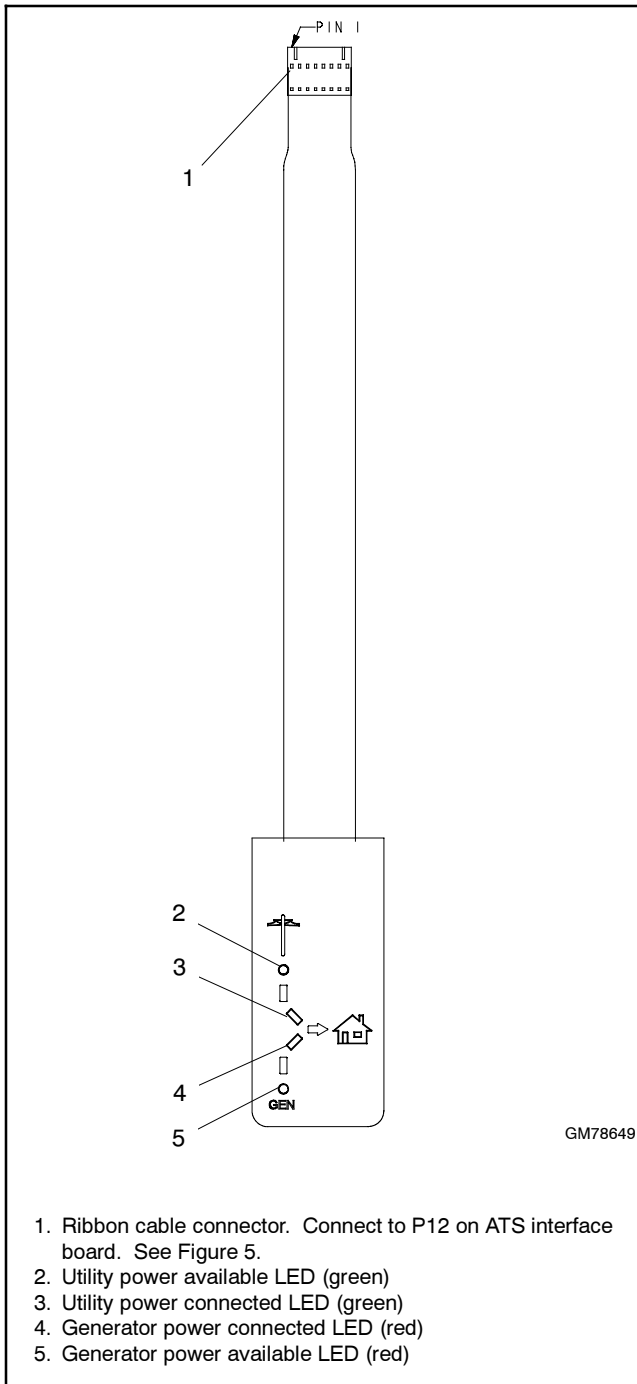

Figure 3 Status Indicator GM78649
8. Insert the status indicator's ribbon cable through the opening. Check that the indicator is facing the right direction. See Figure 3.